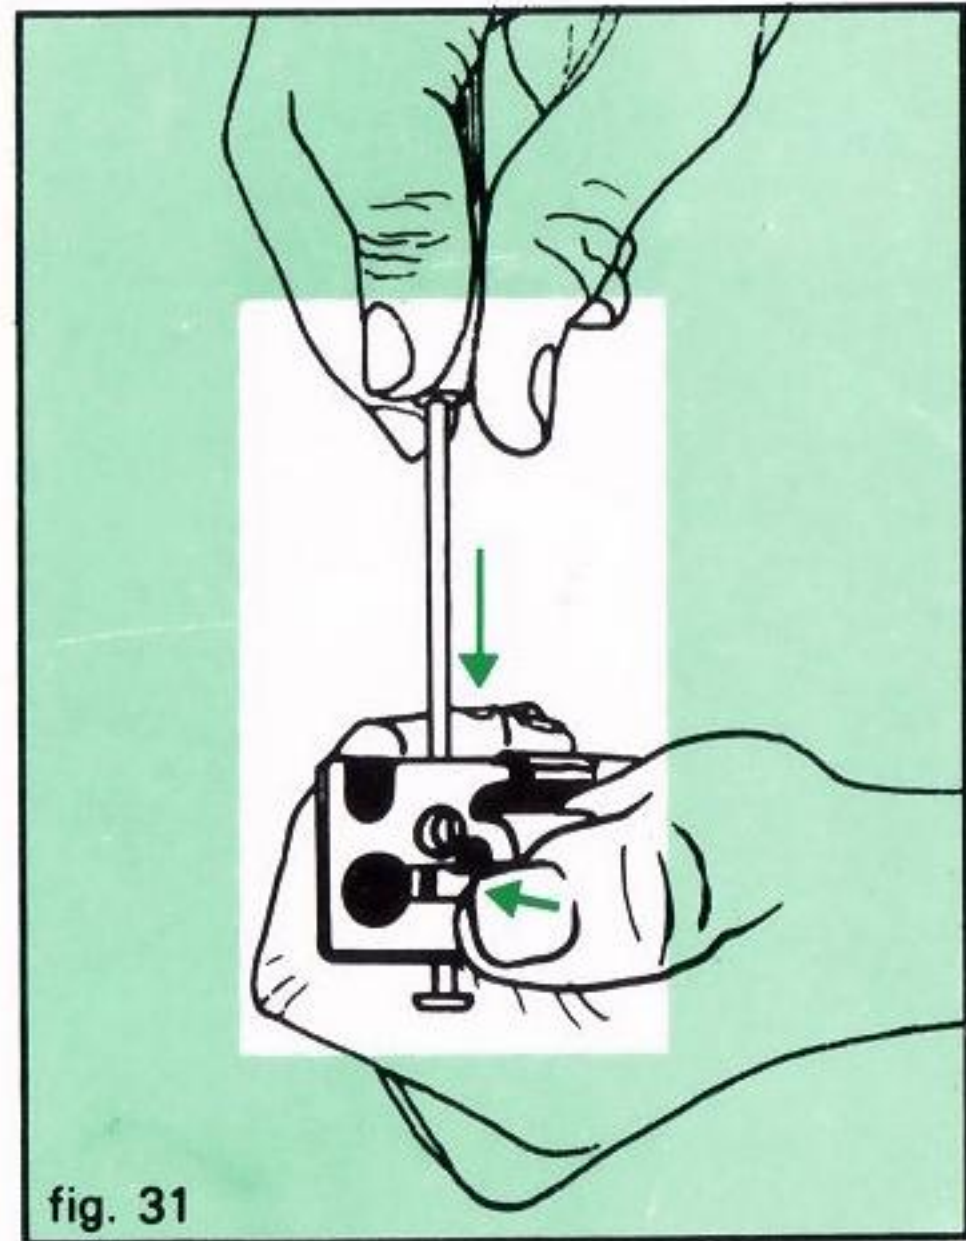

fig. 31
1. Using a suitable drift pin ($1/8''$ to $5/32''$ dia.) push out extractor retaining pin from its shank end holding finger over blocking latch keep spring from jumping out (fig. 31), then carefully remove blocking latch with spring.